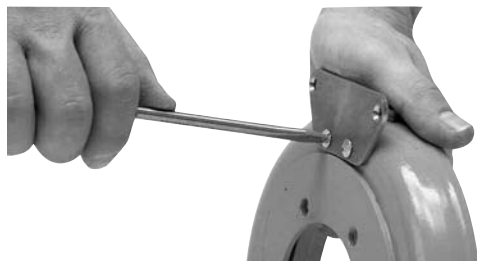

Figure 2
Step 3 Mount conduit box (3) to the bracket (1). The conduit box flange must be toward the back of the clutch or brake. Secure the box with two No.10-32 hex. washer head screws (4). (See Figure 2)